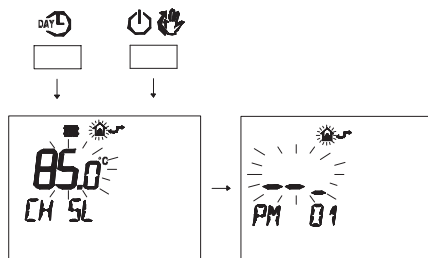

Fig. 7.29
- Press buttons DAY and ON/OFF at the same time to enter transparent programming (Fig. 7.29).